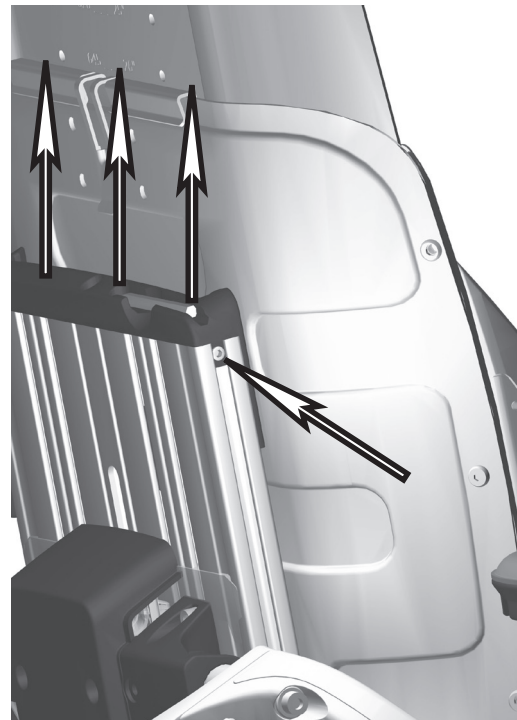

Fig. 1.
1. Remove the cover on the backrest profile by unscrewing the screws on each side a few turns and pull the cover up, out of the tracks. Fig. 1.